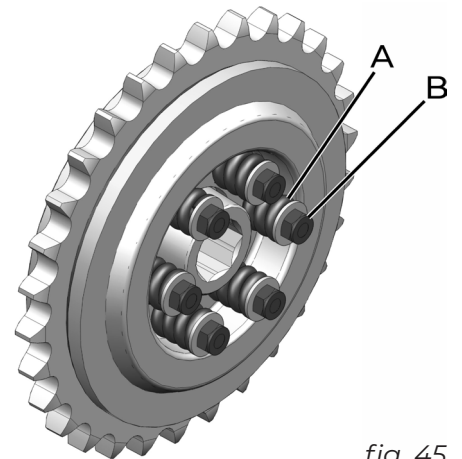

fig. 45
The clutch can also be set according to the harvesting conditions. When the clutch is “skidding” frequently, stop immediately, look for the cause and fix it. If there is nothing obstructing the harvesting unit or auger, the springs (A) (*fig. 45*) pressure can be adjusted. It is important to evenly tighten the nuts (B). Never tighten the nuts in a way that fully compresses the spring. This will cause the system to lose functionality and can cause damage to the system.